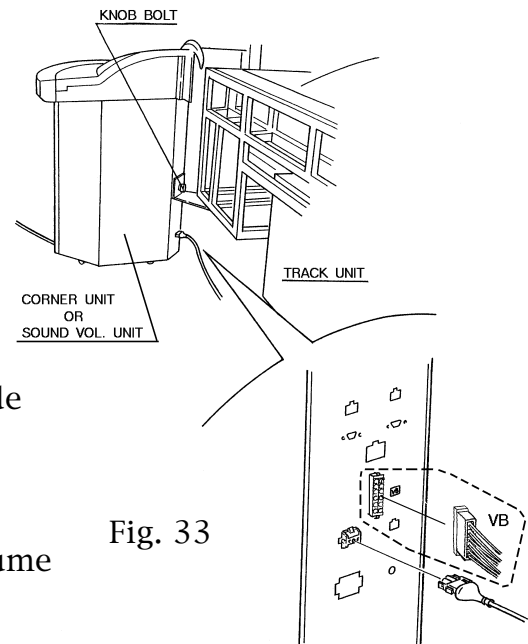

Fig. 33
- (1) When installing the corner unit on the right side, align the corner unit to the R-indicated holes of the bracket.
- (2) When installing the corner on the left side, align the corner unit to the L-indicated holes of the bracket.
20. Connect the harness from the track unit to the corner unit. Refer to Fig. 33.
24. Connect the power harness and volume harness (VB) from the track unit to the volume control unit. Refer to Fig. 33.